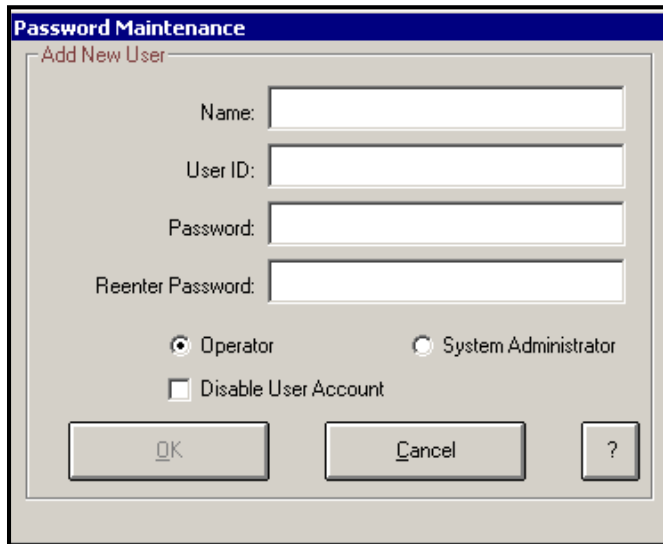

Figure 11: Password Maintenance Add New User Screen
1. On the Password Maintenance screen, click the Users menu, and then click **Create User**. The **Password Maintenance Add New User** screen (shown in Figure 11 on the next page) appears.